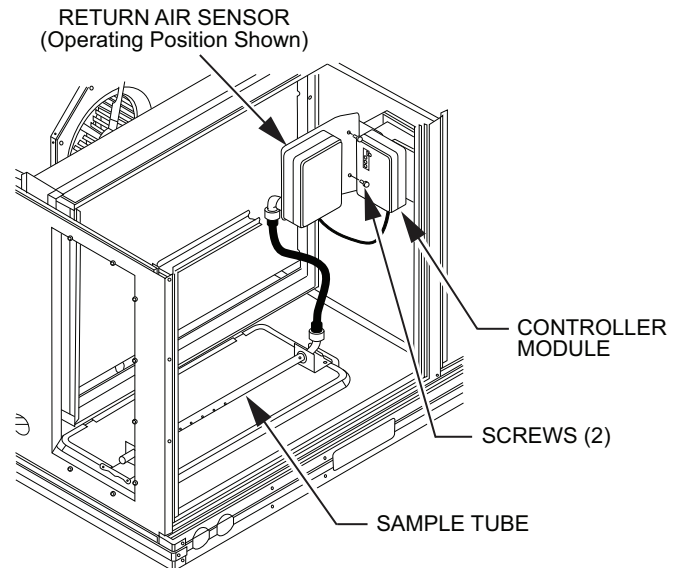

Fig. 41 — Return Air Sensor Operating Position
3. Rotate the detector plate so the sensor is facing outwards and the sampling tube connection is on the bottom (see Fig. 41).